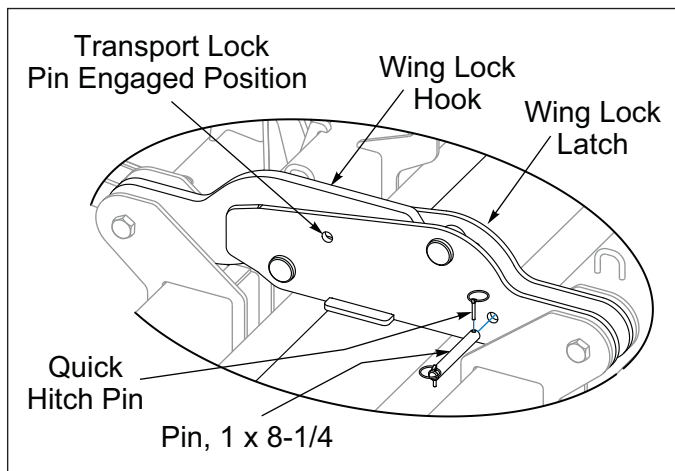

Figure 3-8: Wing Fold Lock Transport Lock Stored
2. Remove Wing Fold Lock Transport Lock Pin and place in storage location. **See Figure 3-8.**